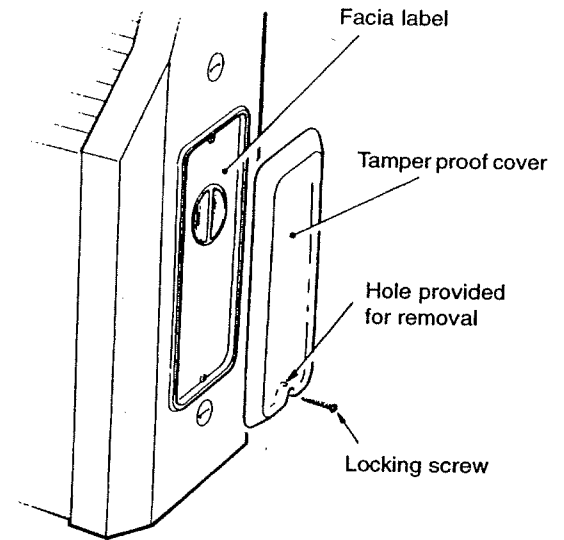

Fig. 8
2. When the unit is fully assembled and the controls set, fit the tamper proof cover using the screw provided, see Fig. 8.